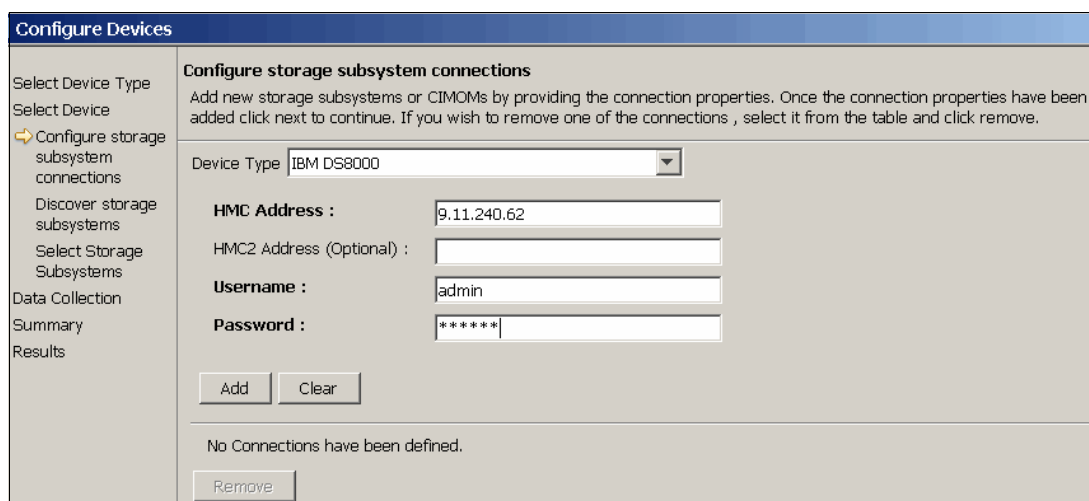

Figure 12-12 Configure DS8000 Storage Subsystem
- From the Configure storage subsystem connections panel (Figure 12-12), locate the *Device Type* field. Click the arrow to view the list of devices, then click **IBM DS8000**. Enter the following connection properties for the DS8000 storage system:
Enter the user name for logging on to the IBM System Storage DS8000 Storage Manager (also known as the DS8000 element manager or GUI) as shown in Figure 12-12. The default user name is admin.